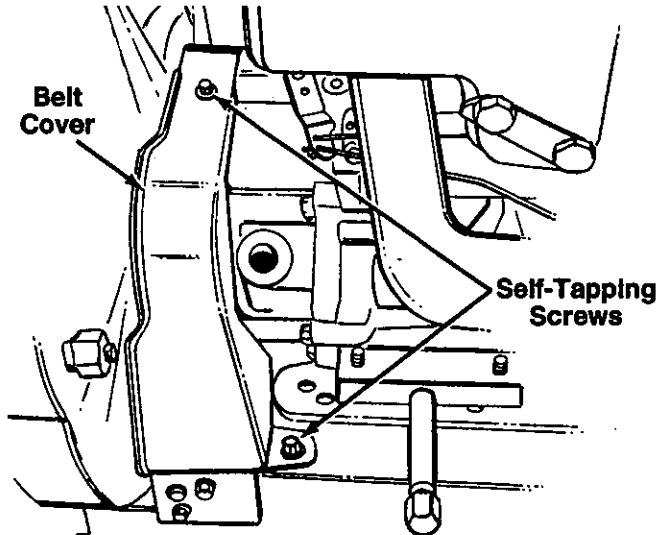

FIGURE 14.
3. Remove the plastic belt cover on the front of the engine by removing the two self-tapping screws. See figure 14.